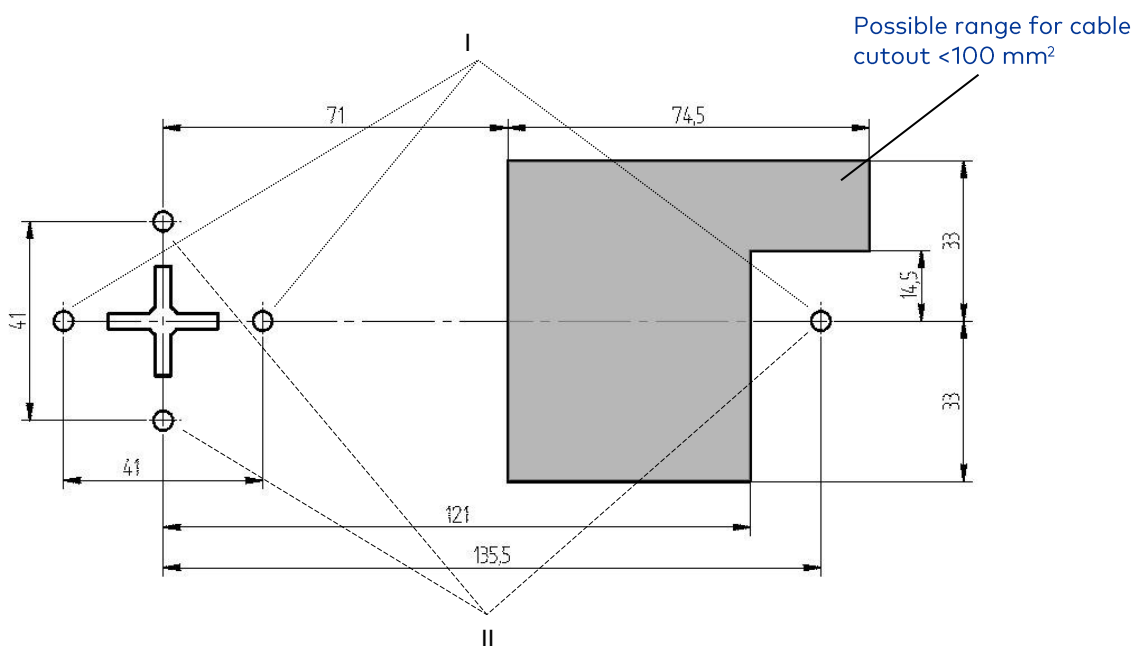

Figure 31: Holes in operating unit and possible range for cable passage
To install the input unit, first 3 holes with M4 thread must be drilled according to Figure 31 respectively. Two screw connection options have been given. They are shown in Figure 31 as I and II. Depending on the installation position, the keypad has to be rotated according to Table 11, if necessary.
The Combi B 30 / 90 base part (11) is now screwed onto the storage unit door using the three enclosed screws (9), as shown in Figure 31, (for the drill hole specification, see chapter 12.2). Ensure tidy cable routing: